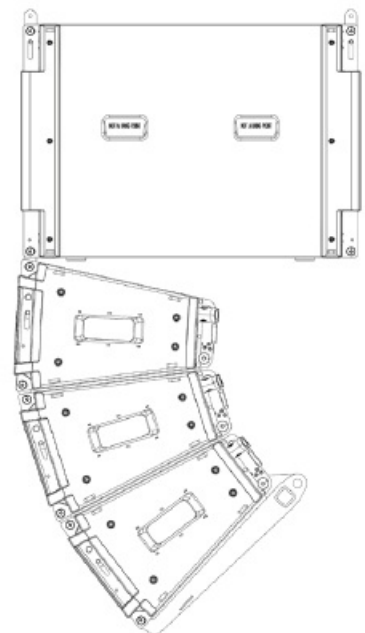

Fig. 7. SM20-SM20-SM20
- SM20, SM20, SM20 (see Figure 7)